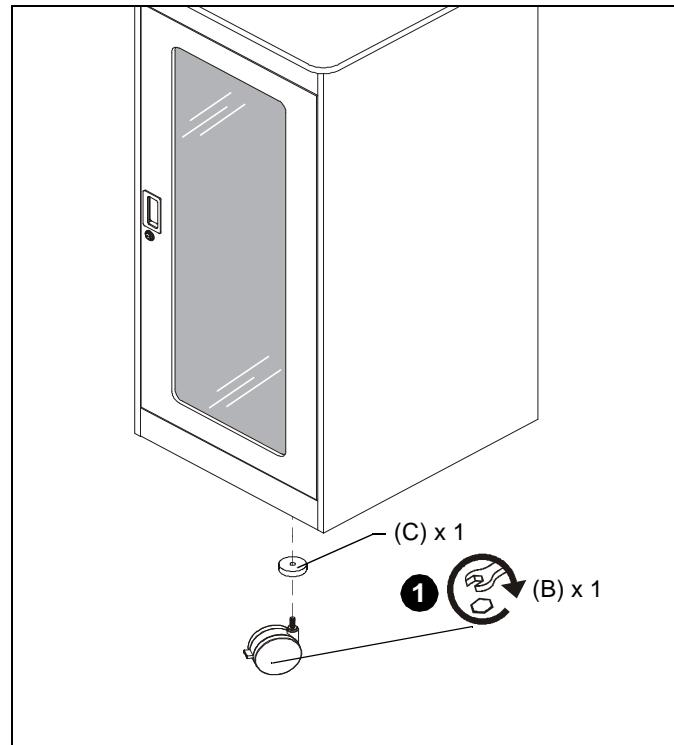

Figure 3
1. Attach one caster (B) to each lower corner of the F1 rack using one F1 caster spacer (C) for each caster. (See Figure 3)